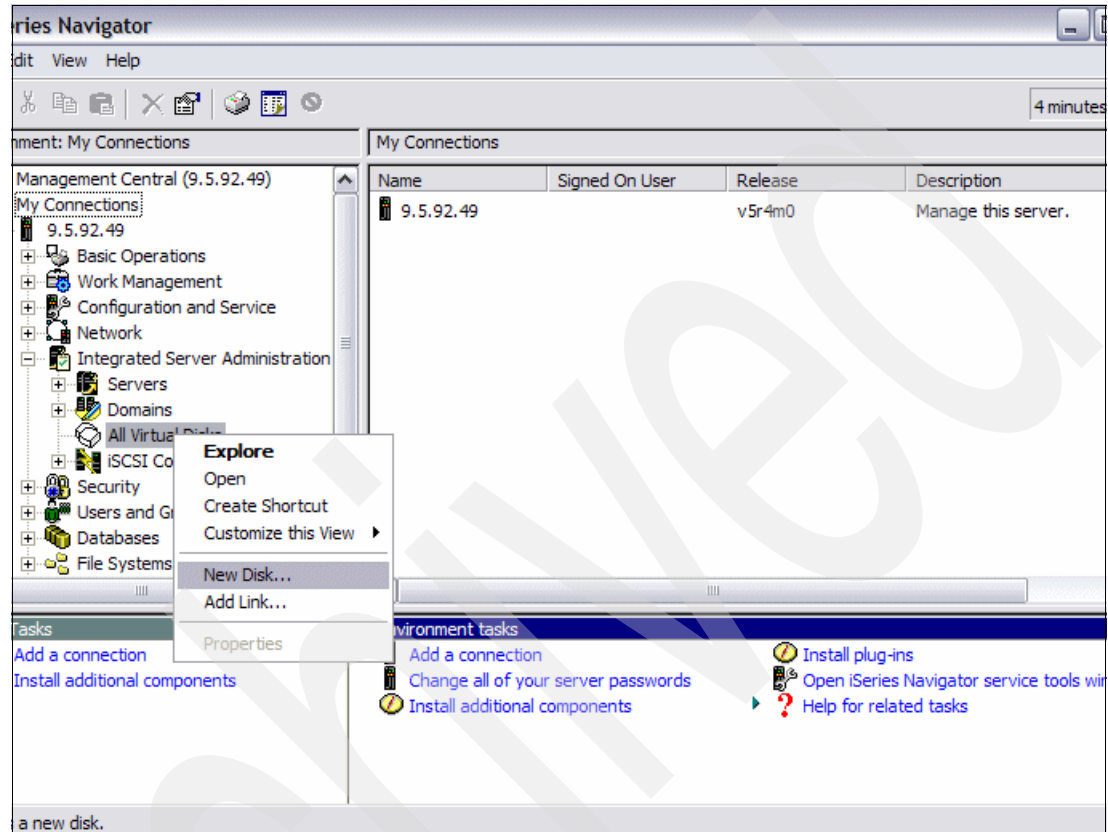

Figure 4-68 Creating new virtual disk
2. Create additional virtual disks for user data and link them. To create and link new storage spaces in iSeries Navigator (Figure 4-68):